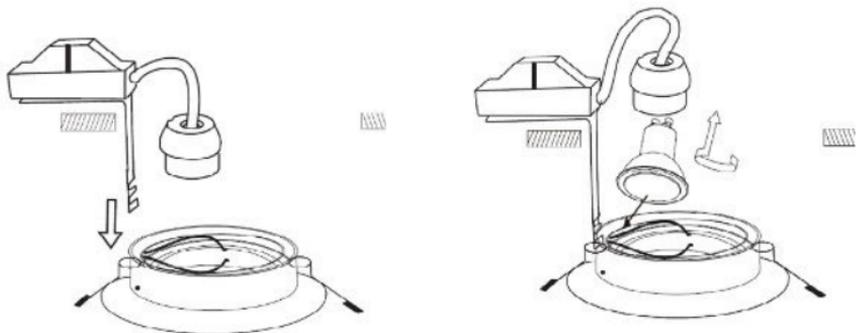

Fig. 3
- Insert the terminal block bracket into the side of the spring clip on the downlight and add a suitable LED GU10 lamp (see Fig. 3)